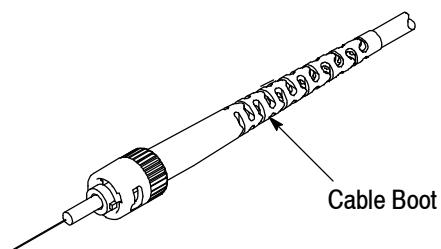

Figure 13
f. Slide the cable boot over the crimp sleeve to complete the connector assembly. See Figure 13.